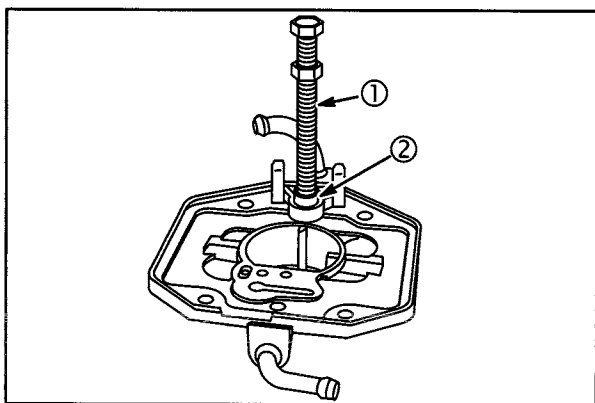

Fig. 104
1. Use self-threading screw #93029 (1) from Fly-wheel Puller #19165. Thread screw into seat body (2) 3 - 4 turns, Fig. 104.